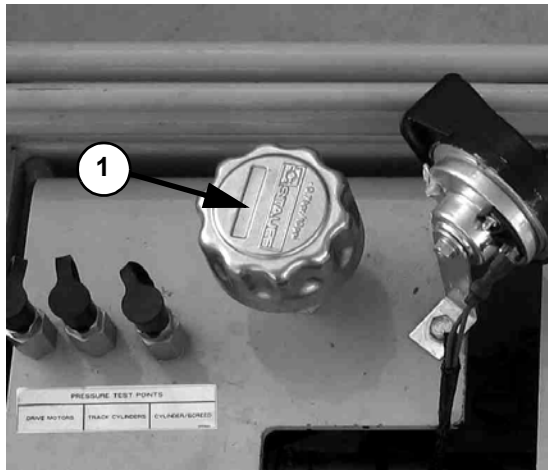

Fig. 37 - Hydraulic System Breather Cap
- Loosen the hydraulic breather cap (1, Fig. 37) to relieve hydraulic system pressure.